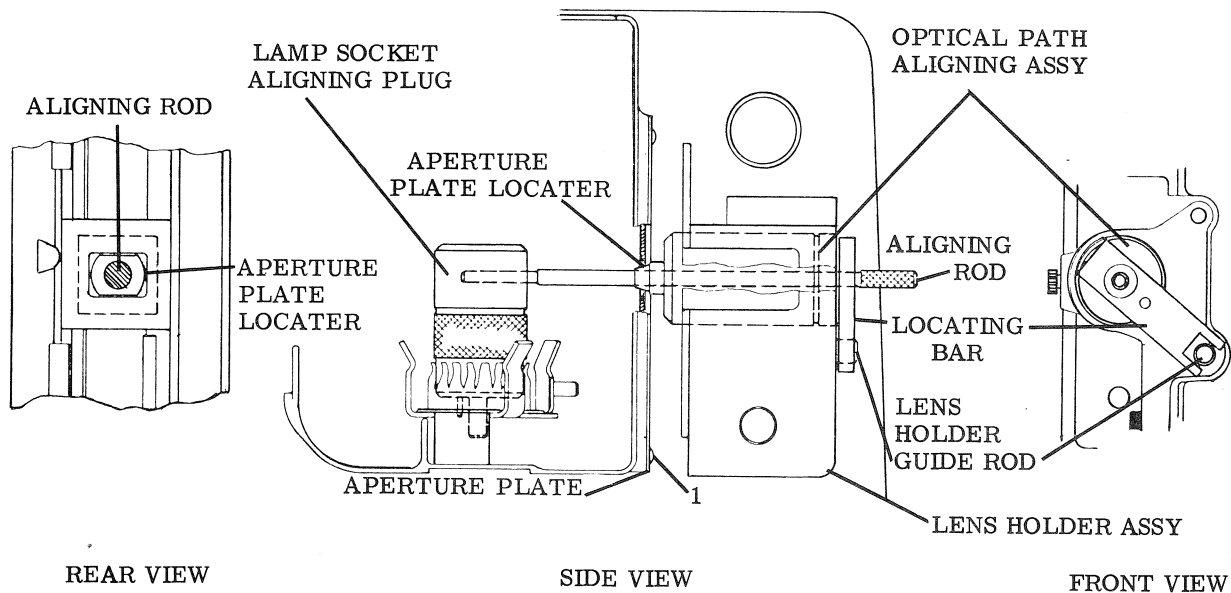

Figure 3-32. APERTURE PLATE & LAMP SOCKET ALIGNMENT
1. Aperture Plate and Lamp Socket (Figure 3-32)